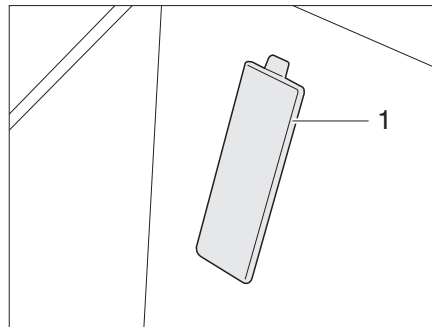

Fig. 369 Cover for chassis number (Fiat base vehicle)
- ▷ For vehicles on a Fiat chassis, the chassis number is located behind a cover (Fig. 369,1) in the entrance on the front passenger's side.